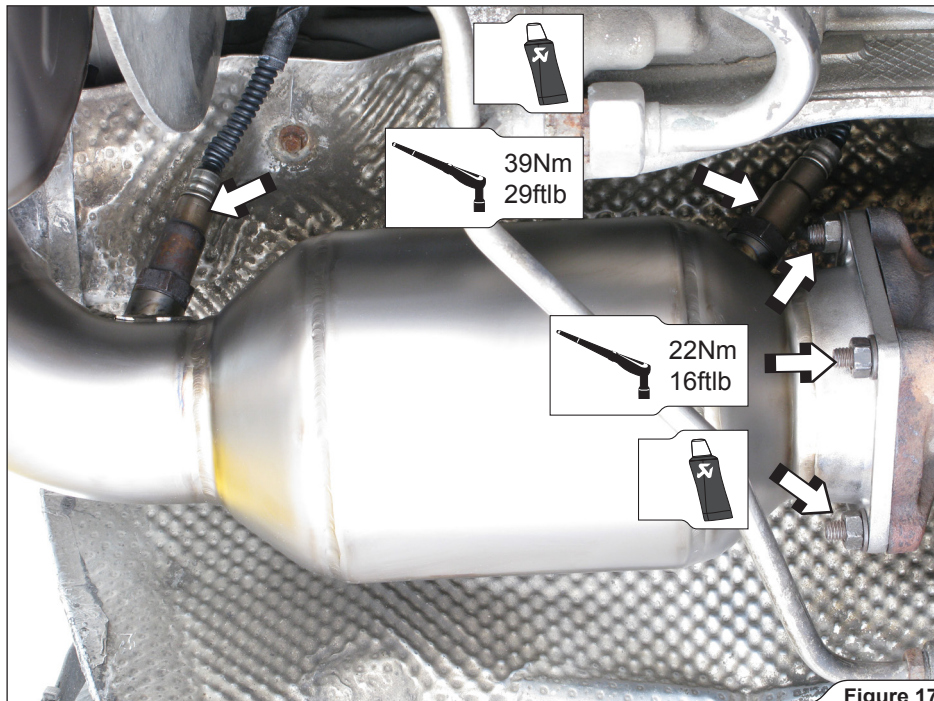

Figure 17
4. **For Slip-On and Evolution:** install and tighten all four lambda sensors on both sides and tighten the link-pipes onto the turbines, using stock nuts and washers (**Figure 17**).